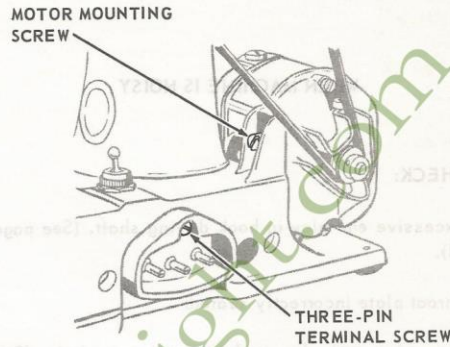

Fig. 50. Removing Motor
2. Loosen motor mounting screw, Fig. 50, and remove motor belt.
3. Remove three-pin terminal fastening screw, Fig. 50.
6. Remove motor mounting screw, Fig. 50, and remove motor, drawing motor leads out through opening in machine frame.
5. Remove motor mounting screw, Fig. 50 and remove motor, drawing motor leads out through opening in machine frame.